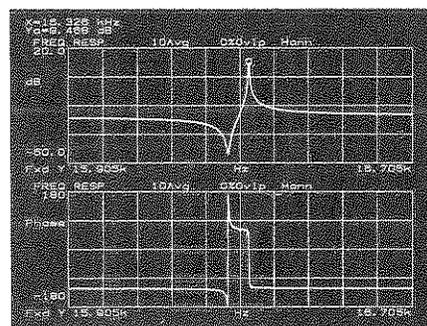

Figure 2-6
- 3. Magnitude and Phase** Select the **FREQ RESP** softkey. Press the **COORD** (coordinate) key. Several trace coordinates including phase and linear magnitude are available. The **NEXT** softkey displays the next level of coordinates which includes linear or logarithmic frequency axis. An example is shown in figure 2-6.